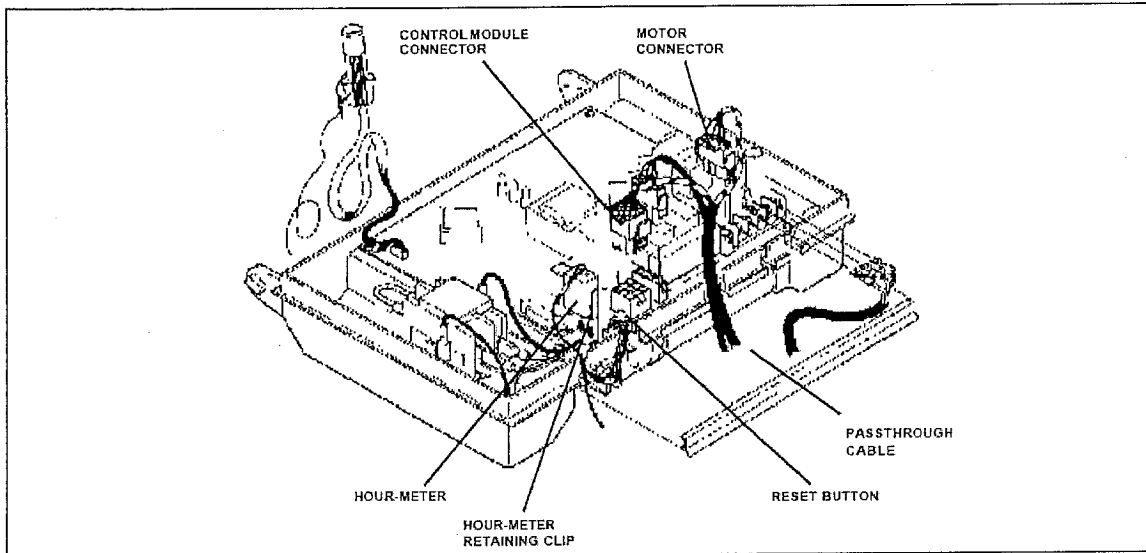

Figure 12 Compression Module Connections and Reset Button Location
- Remove the *hour-meter* from its pocket in the *Compression Module* and plug it into the *Electronics Module* circuit board; ensure positive engagement of the retaining clip (See Figure 12).
**NOTE:** If a "Call for Service" (e.g. red light flashing) was evident before servicing the VRA, the electronics must be "reset" by pushing the blue reset button located on the lower left corner of the *Electronics Module* circuit board (See Figure 12).
- Unplug the two connectors on the end of the *pass through cable*, from the *Electronics Module* (See Figure 12).